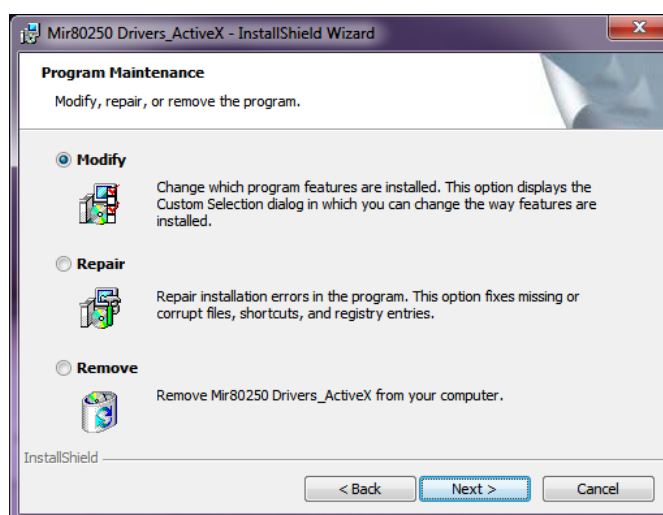

Figure 13: Select Type of Active X Installation
- Select “Modify” and click “Next” per Figure 13.